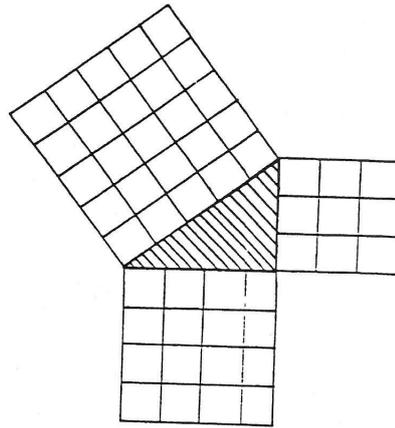

Figure 6 - Pythagoras Theorem
Pythagoras Theorem states that the square on the hypotenuse (the longest side) of a right angled triangle is equal to the sum of the squares of the other two sides. The right angle triangle shown in Figure 6 may be used to illustrate Pythagoras Theorem. The three sides are in the ratio 3:4:5. The square on the hypotenuse 5x5 (25) is equal to the sum of the squares on the other two sides: